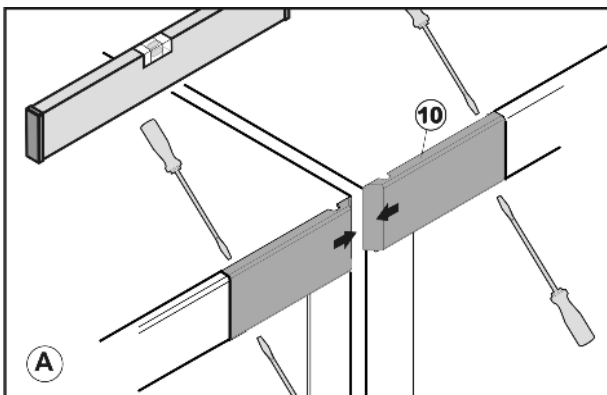

Fig. 43
- ▶ Loosen covers Fig. 43 (10) using a screwdriver and pull inwards to remove.